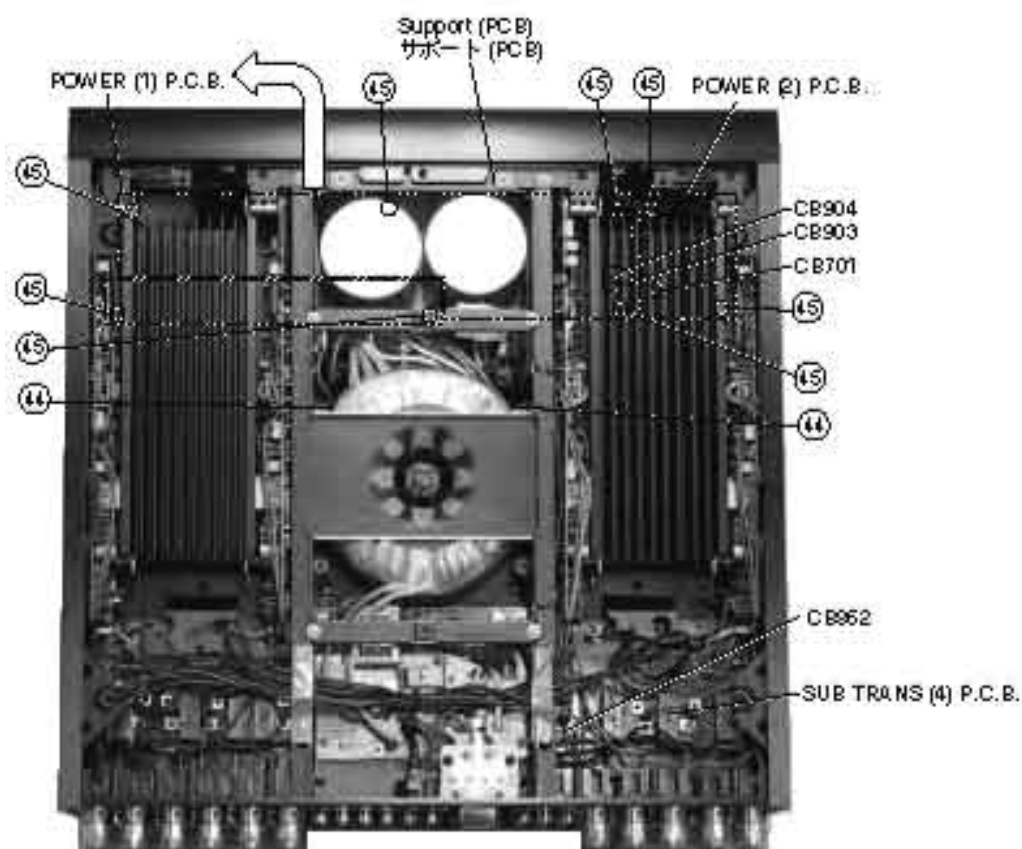

Fig. 19
13. Removal of POWER (1) P.C.B. & POWER (2) P.C.B.
- Remove the SUB TRANS (3) P.C.B. (See procedure 10)
- Remove 2 screws (④④) and then remove the Support (PCB). (Fig. 19)
- Remove 8 screws (④⑤). (Fig. 19)
- SUB TRANS (4) P.C.B. (Fig. 19)
- POWER (1) P.C.B. (Fig. 19)
- POWER (2) P.C.B. (Fig. 19)
- Remove the POWER (1) P.C.B. and the POWER (2) P.C.B. (Fig. 19)
13. POWER (1) & (2) P.C.B.の外し方
- SUB TRANS (3) P.C.B.を取り外します。(10項参照)
- ④④のネジ2本を外し、サポート (PCB)を取り外します。(Fig. 19)
- ④⑤のネジ8本を外します。(Fig. 19)
POWER (1) P.C.B. (Fig. 19)